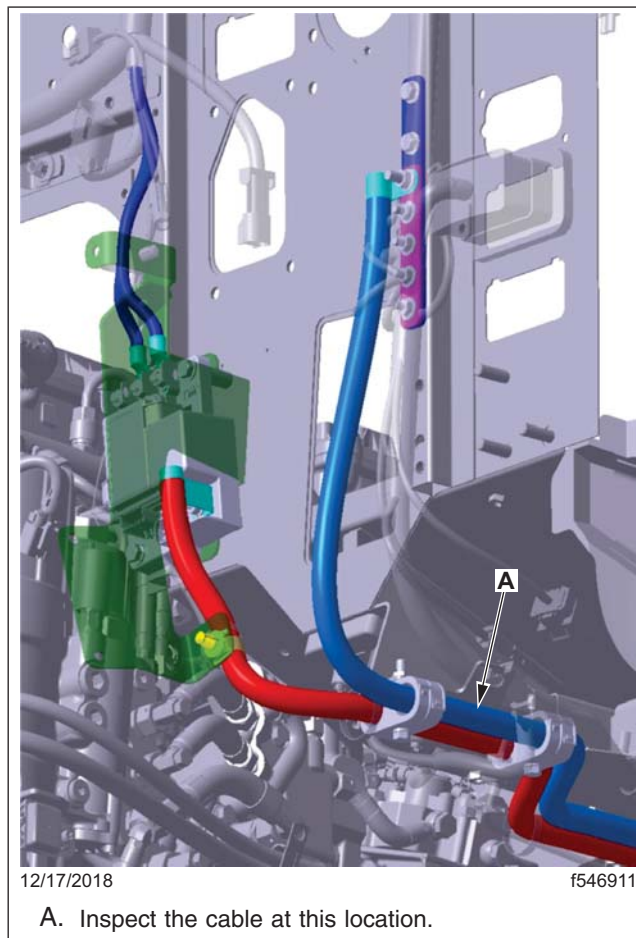

Fig. 1, Battery Cable Routing Under the Cab
3. Inspect the battery cable routed between the battery box and the PNDB (located on the firewall) for signs of rubbing on the cab support bracket. See **Fig. 1** for location.